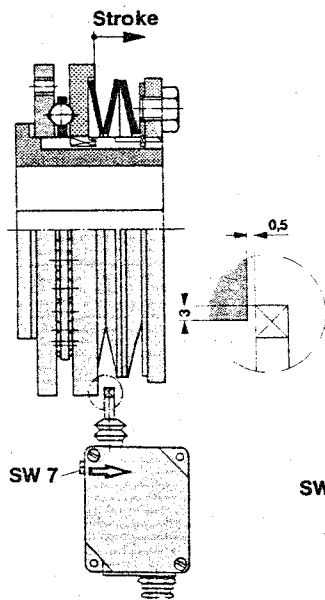
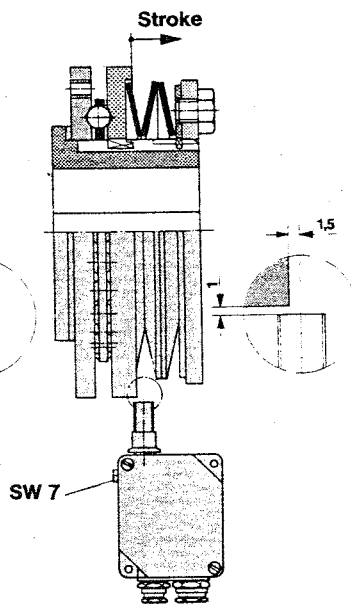

Fig. 5
Fig. 6
The arrow of the switch direction on the cover of the housing of the mechanical limit switch points in the direction of the adjusting nut (10) or in stroke direction of the control element (5, 6), figure 5.
tactless limit switch according to figure 5 or figure 6 respectively.
The axial distance 0,5 mm or 1,5 mm respectively can sensitively be adjusted by means of a hexagon screw, wrench size 7, figure 5 or figure 6 respectively.